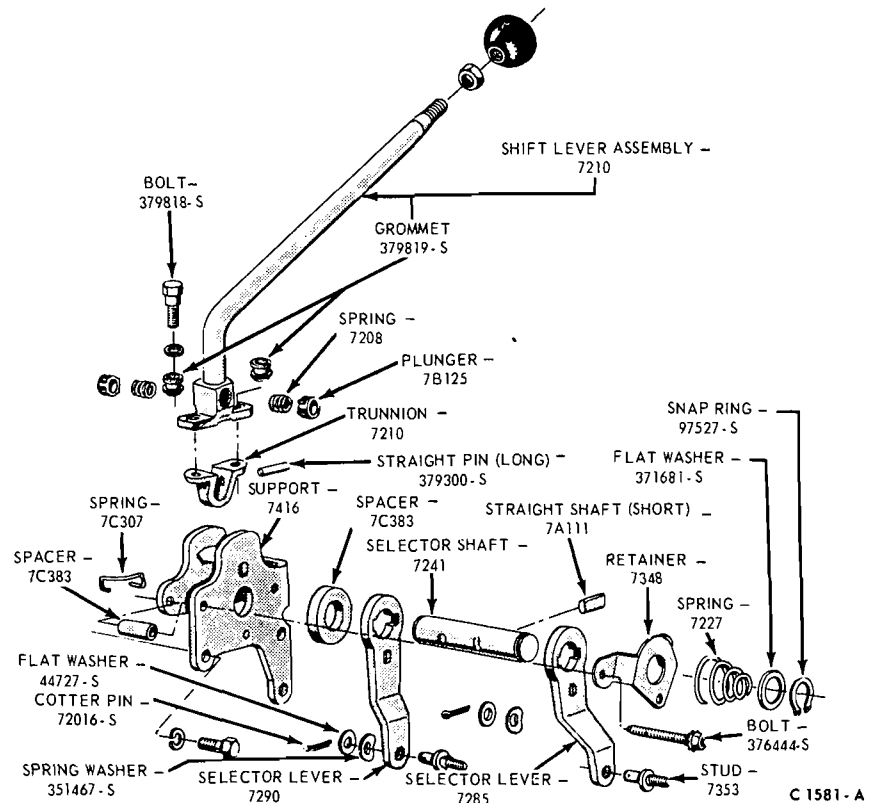

FIG. 6—Gearshift Lever Disassembled—Typical
1. Remove the snap ring from the end of the selector shaft with pointed snapring pliers (Fig. 6).
10. Install the levers and spacer on the shaft as shown in Fig. 6.